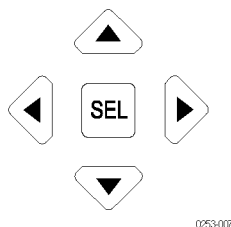

Figure 10: Navigate menus using the arrow keys and select button
4. Use the up and down arrow keys to select parameters in a menu. (See Figure 10.)